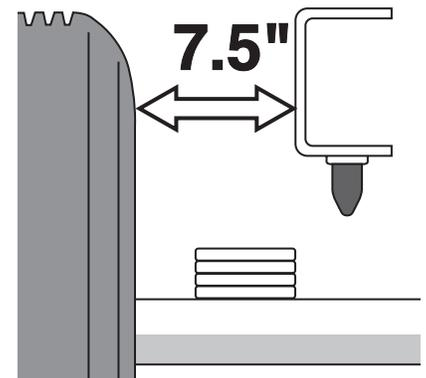

fig. 3
3. Measure the distance between the frame and the tire. This kit requires a minimum of 7.5” of clearance for a fully inflated air spring (Fig. 3).